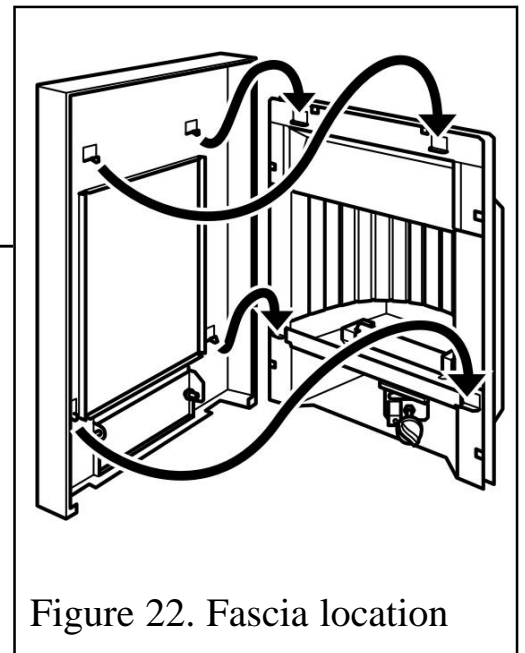

Figure 22. Fascia location
1. Unpack the fascia. Carefully lift the fascia. Place the fascia against the fireplace front surface so that the four retaining plates at the back of the fascia are directly above the four retaining brackets of the hotbox. There are two at the top of the hotbox and two to the side of the burner module. Do not lift the fascia too high as the bottom of the fascia will foul against the control knob. Lower the fascia unit making sure that the retaining plates locate fully into the brackets on the hotbox (See figure 22).